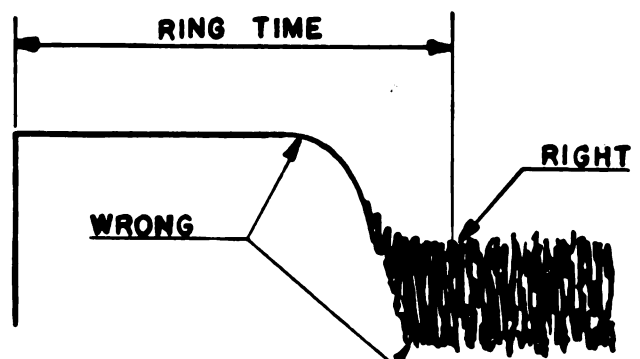

Figure 3-4.
(1) The appearance of a typical ringtime on an A-scope is illustrated in Figure 3-4. The ringtime is to be measured, in units of radar range, to the last point at which any evidence of the ringing can be seen. Do not measure ringtime at the bottom of the "grass" nor at the end of the saturated top portion, because these are changed by the receiver gain setting and by other factors.
(2) Repeat each ringtime measurement on an A-scope at least four times and average the result, since there is an element of judgment involved and this method will reduce the error. Individual measurements may differ by 300 to 500 yards, but the average is more accurate. Practice is very important in reading ringtime. With practice one can detect the weak end of the ringtime which runs out into the "grass". The operator who obtains the greatest ringtime measurement is usually the most nearly correct.
(3) Ringtime measurements should be recorded to the nearest hundred yards or tenth of a mile. Both "yards" and "miles" scales are provided on the slide rule.